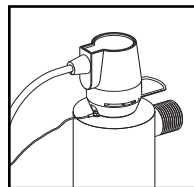
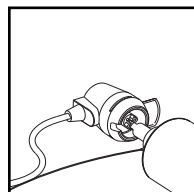
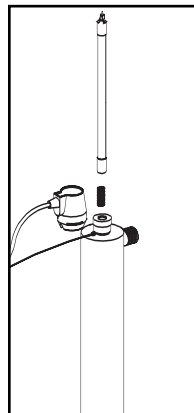

FIGURE 1
FIGURE 2
FIGURE 3
2. Disconnect main power source and allow the unit to power down. Remove the ballast/connector by sliding the metal retaining ring (Figure 1) away from the body of the connector. Remove connector and lamp from the reactor chamber. Separate the lamp from the connector (Figure 2). Do not twist the lamp from the connector, simply slide the two apart. Avoid touching the lamp on the glass portion. Handling the lamp at the ceramic ends is acceptable, however if you must touch the lamp glass, please use gloves, or a soft cloth. Fully remove the lamp from the reactor chamber being careful not to angle the lamp as it is removed from the chamber. If the lamp is removed on an angle, pressure will be applied on the inside of the quartz sleeve, causing the sleeve to fracture.
3. To install a new lamp, first remove the lamp from its protective packaging again being careful not to touch the lamp glass itself. Carefully insert the lamp into the reactor vessel (actually inside the quartz sleeve) (Figure 3). Insert the lamp fully into the chamber leaving about two inches of the lamp protruding from the chamber. Next, attach the ballast/connector on the UV lamp (Figure 2). The connector is "keyed" and will only allow correct installation in one position. Ensure the connector is fully seated onto the UV lamp (Figure 4).
4. Once the lamp is fully seated on the connector, slide the ballast/connector over the aluminum retaining nut. Make sure the metal retaining ring on the ballast/connector is pulled away from the body of the connector in order that the connector may slide fully over the retaining nut. Once the connector is located fully over the retaining nut, slide the metal ring back in to lock the connector in place (Figure 5). As this ballast/connector is keyed to the reactor chamber, make sure the depression on the connector (Figure 1) is located over the ground lug located on the reactor chamber.